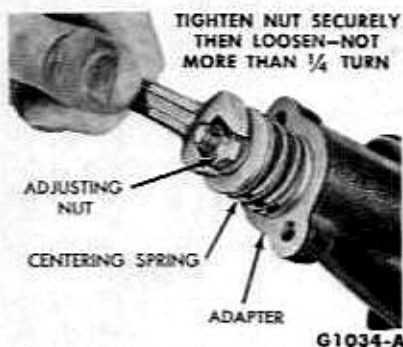

FIG. 15—Centering Spring Adjustment
14. Compress the centering spring, and install the nut on the bolt. After tightening the nut securely, loosen it not more than 1/4 turn (Fig. 15). Excessive tightening of the nut may break the stop pin at the travel regulator stop.